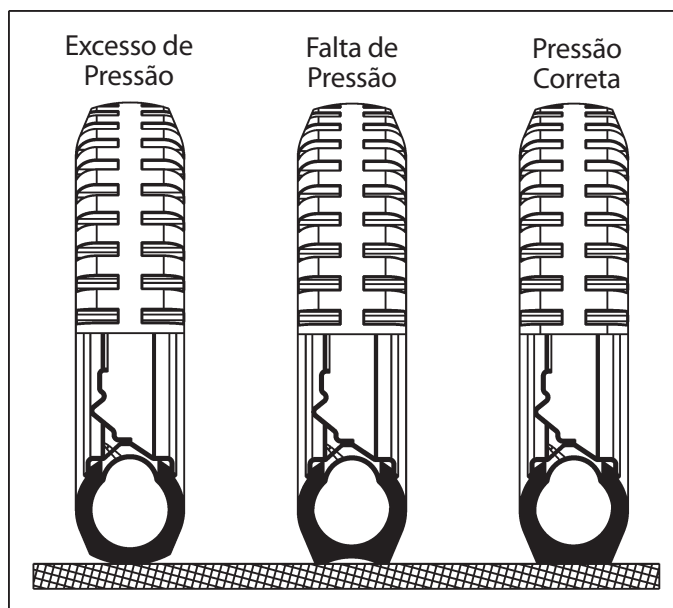

Figure 53
- 1- For conventional planting, lock the wheels (1) through the pin (2) and locks (3).
- 3- The wheels (1) are equipped with traction springs (4), for greater adherence to the ground. Do not operate the seeder without them, **as shown in Figure 53.**
WHEELS PRESSURE (FIGURE 53)